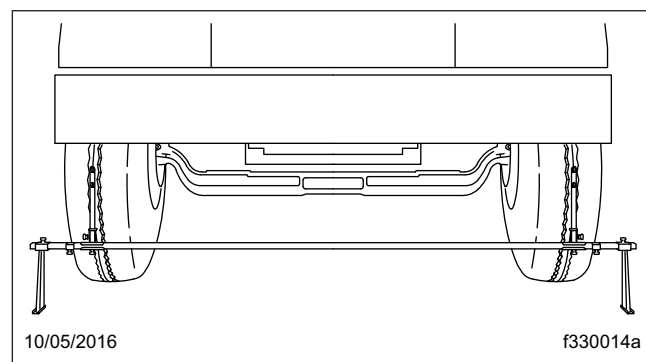
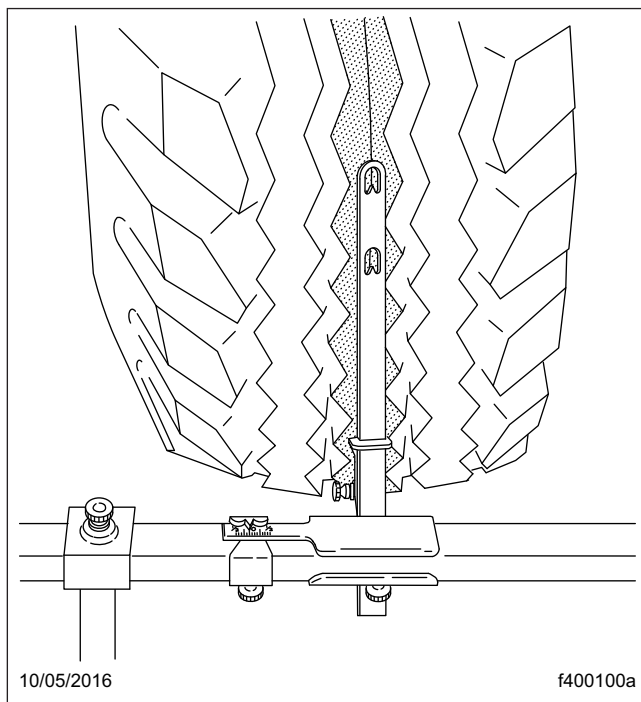

Fig. 11, Trammel Bar Positioning
Fig. 12, Setting Trammel Bar Pointers
7. Place the trammel bar at the front of the tires (see Fig. 11) and adjust the scale end so that the pointers line up with the scribe lines. See Fig. 12.